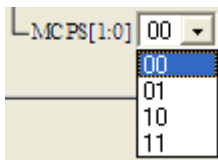

Figure 57
- (1) Click mouse left key to the network name, MCPS, to select the network
- (2) Click mouse left key to the network switch, MCPS, to select the network
- (3) Click mouse left key, window like Figure 57 shows up, then user can select the switch network